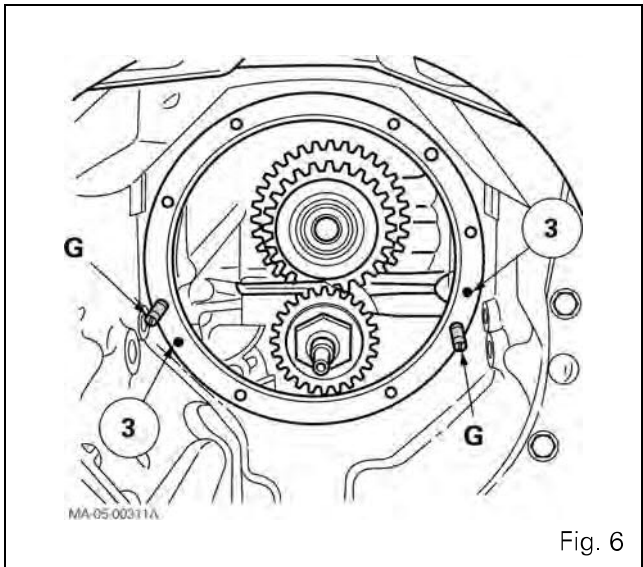

Fig. 6
13. Discard the O'rings (3) (Fig. 6).
19. On the gearbox housing, fit new O'rings (3) and two guide studs "G" (Fig. 6) approximately 200 mm long (optional).